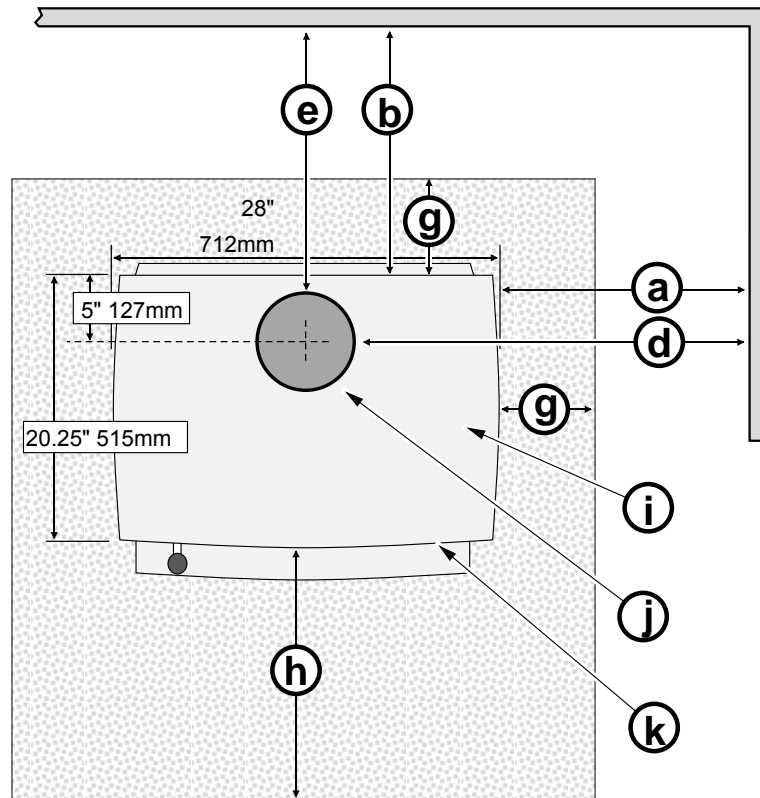
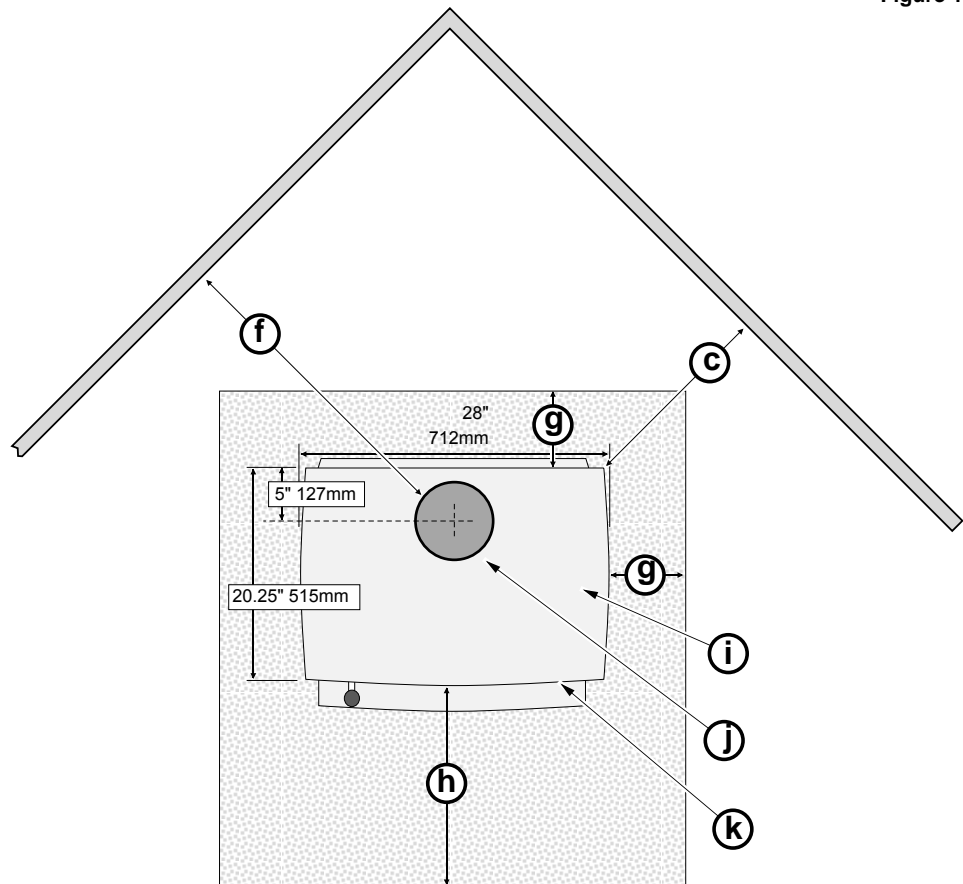

Figure 1
Figure 2
- The following clearances must be met (see Figure 1 and Figure 2):